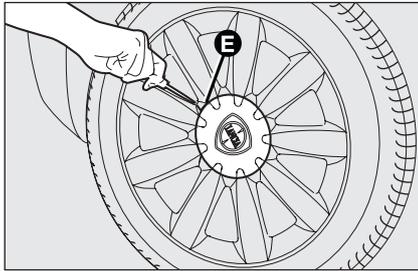

fig. 11
- ❑ for cars fitting alloy rims, remove the hub cap using the screwdriver provided levering in groove **E**-fig. 11, as shown in the figure;